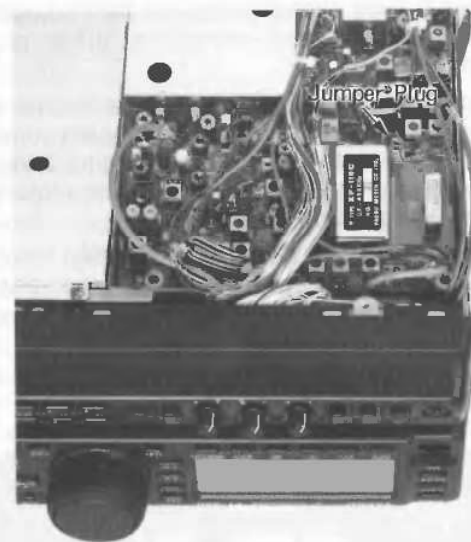

Figure 10
- Referring to Figure 10, determine the location of the filter(s) you are installing (the XF-110C and XF-110CN cannot both be installed, as they use the same mounting location). If installing either filter for CW narrow, remove the jumper plug.